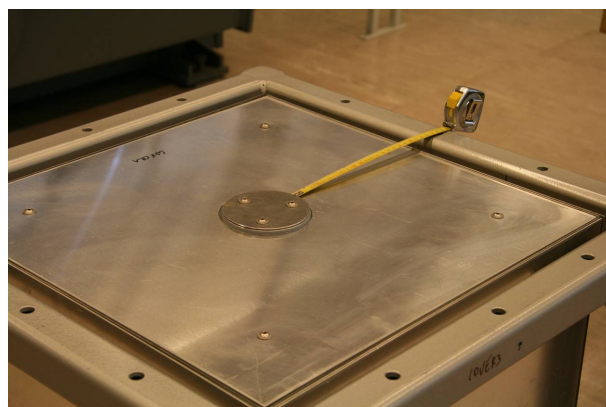

Figure 17: Al/Cd/Al sandwich panels installed and verifying centring.
3. Add Al/Cd/Al panels to all sides, and on top. Remove the guiding tube and verify that the shield is properly centred (Figure 17).